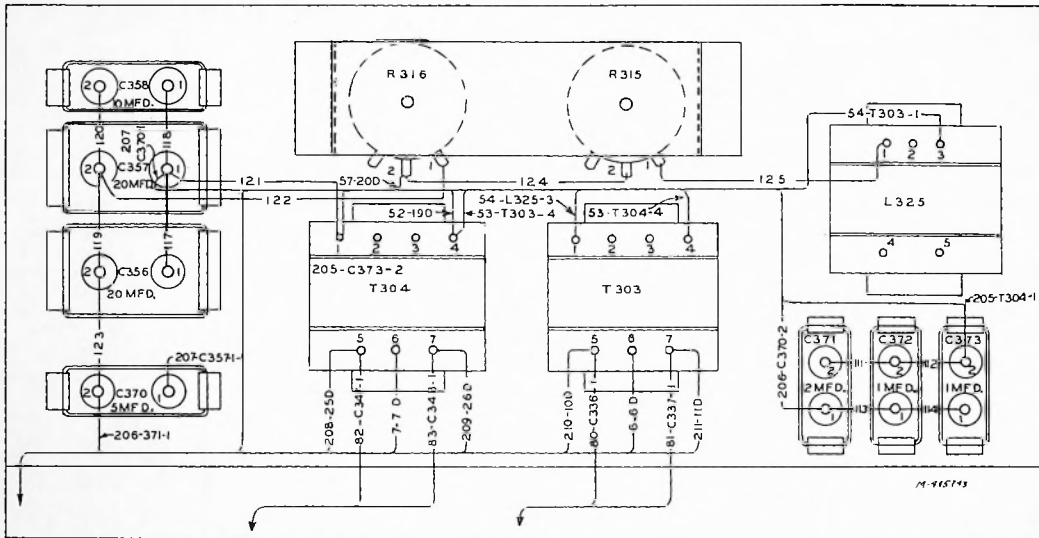

Figure 6—Filament Phasing Capacitor Connection Diagram
*Refer to connection diagram Figure 6.
It is important that the connections made to the filament phasing capacitors be made correctly. The following diagram, Figure 6, is provided to aid in making the correct connections.